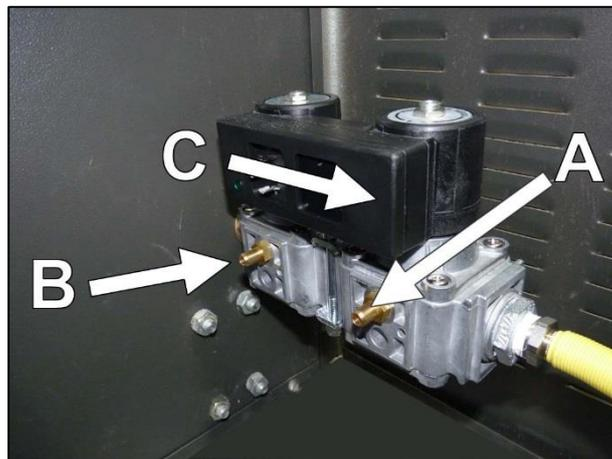

Fig. 6.3
##### Gas supply pressure control (Fig. 6.3)
**BE SURE TO TIGHTEN THE PRESSURE OUTLET SCREW (B/Fig. 6.3).**